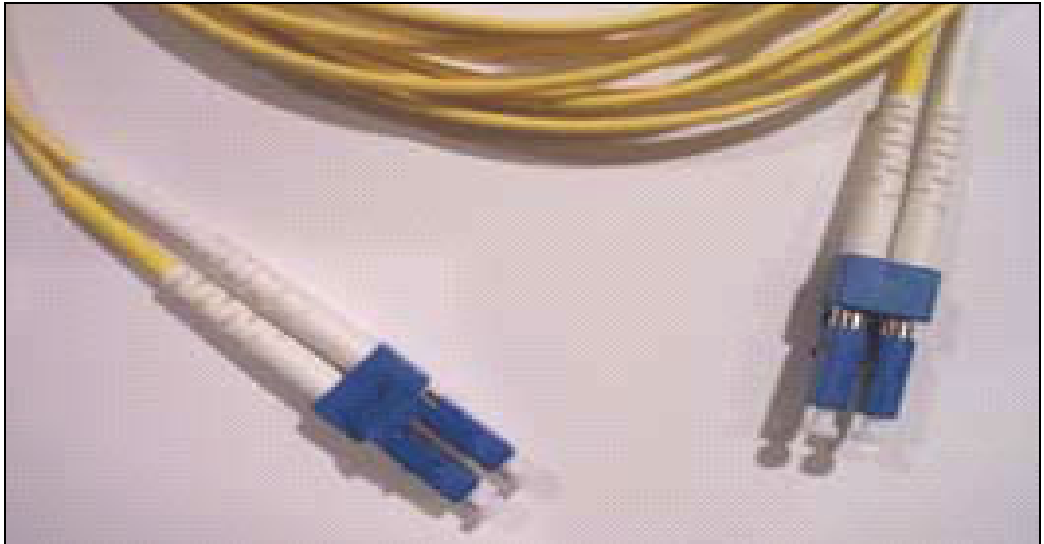

Figure 2-10 Single mode fiber optic cable with LC Duplex connectors
- Standard 9 µm single mode fiber optic cable (see Figure 2-10 on page 35) with LC Duplex connectors for PSIFB LR (1X) links.